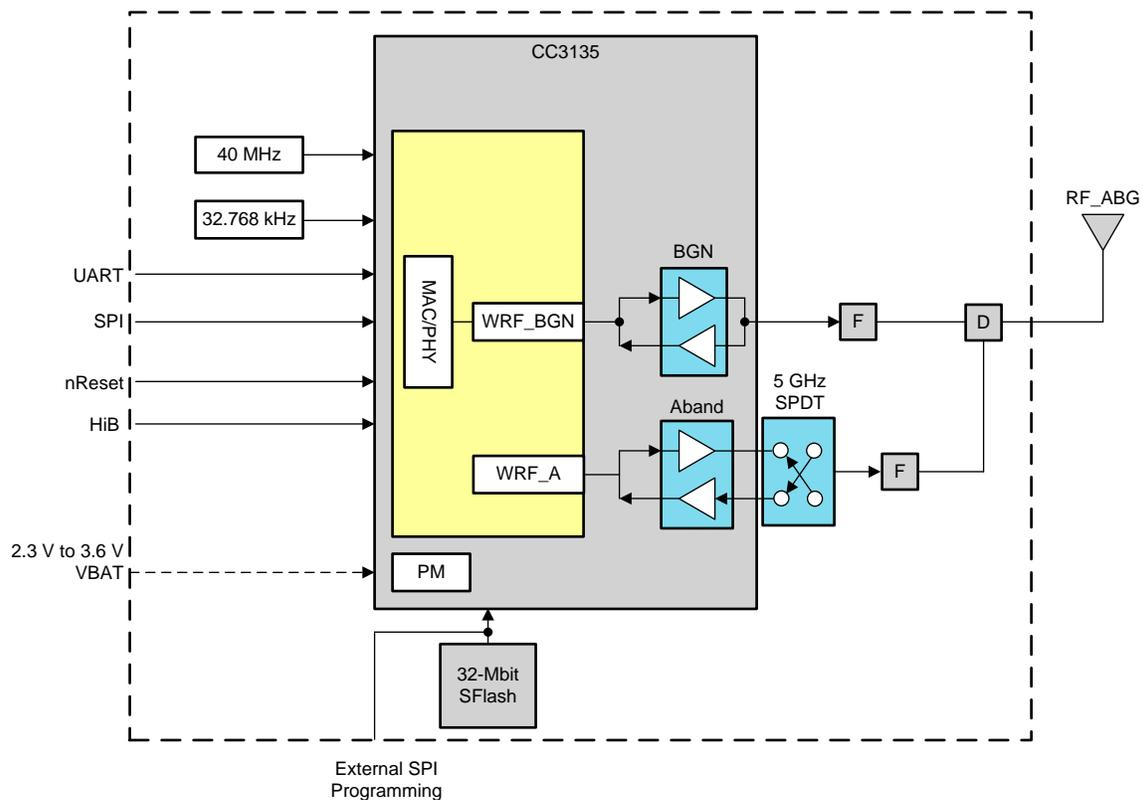

Figure 1-1. CC3135MOD Module Functional Block Diagram
Figure 1-1 shows the functional block diagram of the CC3135MOD module.
• Changed <a href="#">Figure 1-1</a> .....	<a href="#">3</a>